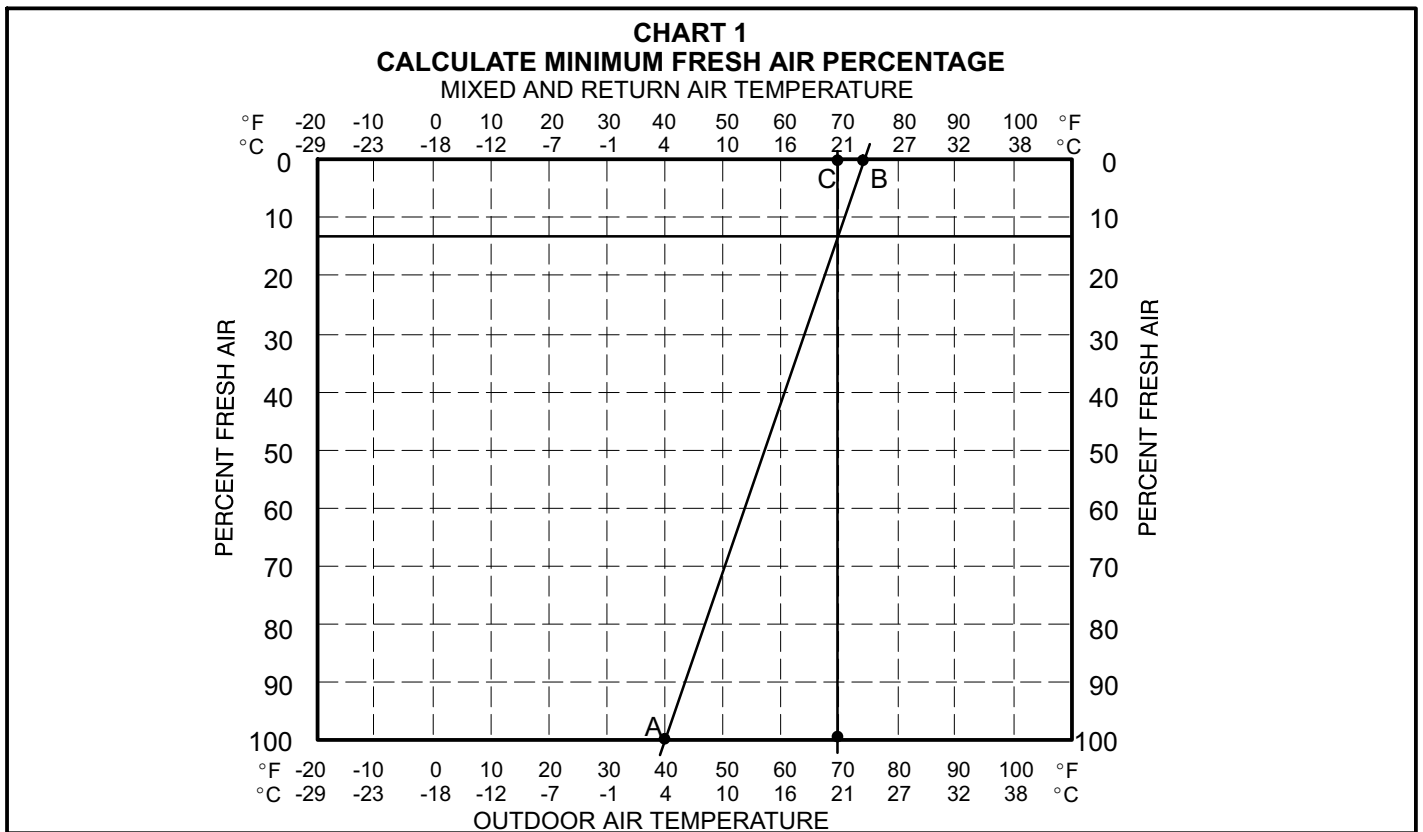

FIGURE 24
- 4- Measure return air temperature. Mark that point on the top line of chart 1 figure 24 and label the point "B" (74°F, 23°C shown).
4. Measure outdoor air temperature. Mark the point on the bottom line of chart 1 figure 24 and label the point "A" (40°F, 4°C shown).